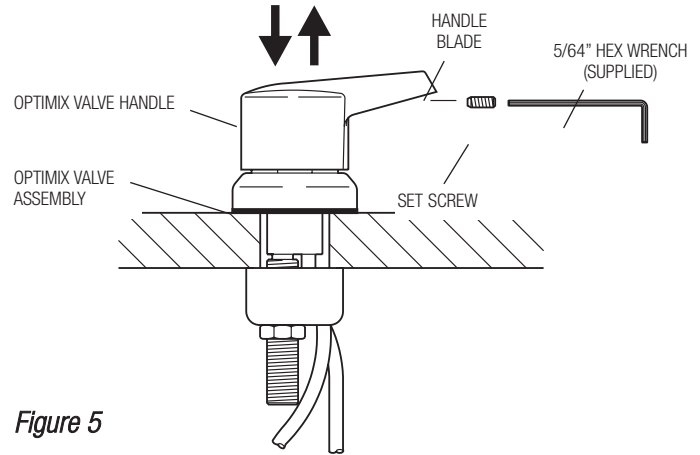

Figure 5
- A** Install the Handle onto the Cartridge Stem (Figure 5). Check that Handle is positioned correctly for ease of use. Install Set Screw below Handle Blade using the 5/64" Hex Wrench supplied. Tighten Set Screw securely.